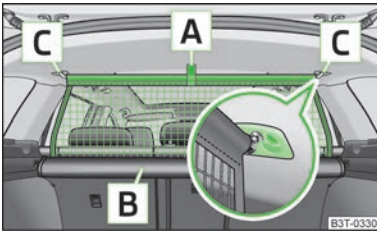
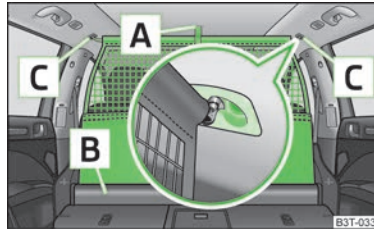

Fig. 78
Fig. 79
- Ensure that the cross rod is inserted into the mounts **C** » Fig. 78 on page 80 or » Fig. 79 on page 80 in the front position!
- Pull the net partition by the bracket **A** » Fig. 78 out of the housing **B** in direction of the holders **C**.
- First pull the cross rod back slightly on the one side and then on the other side and remove it from the mounts **C** » Fig. 78.
- Pull the net partition by the bracket **A** » Fig. 79 out of the housing **B**.
- First pull the cross rod back slightly on the one side and then on the other side and remove it from the mounts **C** » Fig. 79.